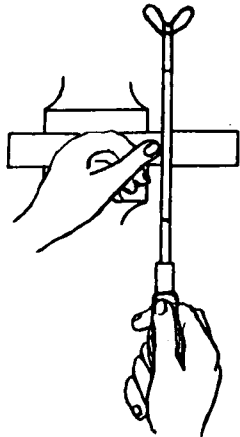
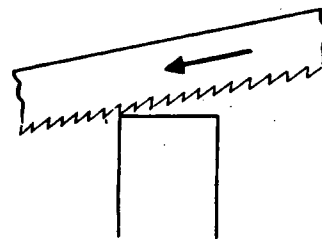

Fig. 6
Fig. 7
1. Start cutting the line with the saw. Guide it with your thumb (Fig. 6) and tilt it slightly forward to avoid breaking the teeth (Fig. 7).